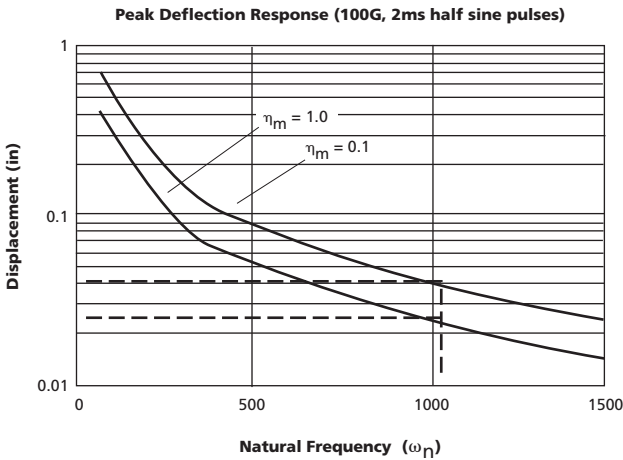

Figure 3
- Peak deflection for this system is 0.022 inch as determined from graph in Figure 3 using the C-1105 material. A curve is shown for poorly damped material such as natural rubber ( $\eta_m=0.1$ ). The peak displacement would then be 0.039 inch which is 77 percent higher than the ISODAMP C-1105 material. This graph is valid for 100G, 2ms half sine pulses only.